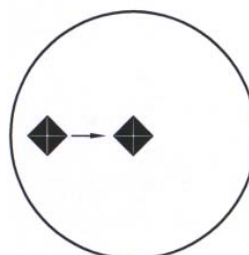

Fig 6-14 Image is on the left side of the center
3. The image is on the left side of the center. Refer to Figure 6-14.